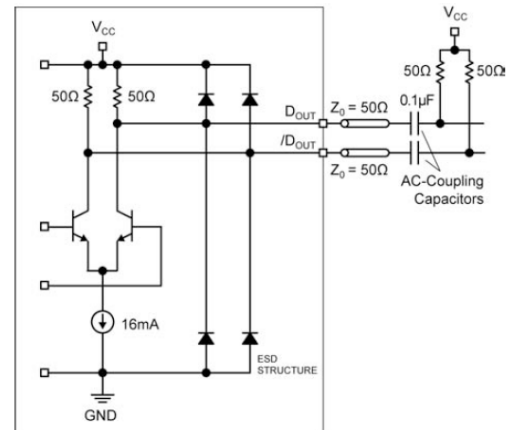
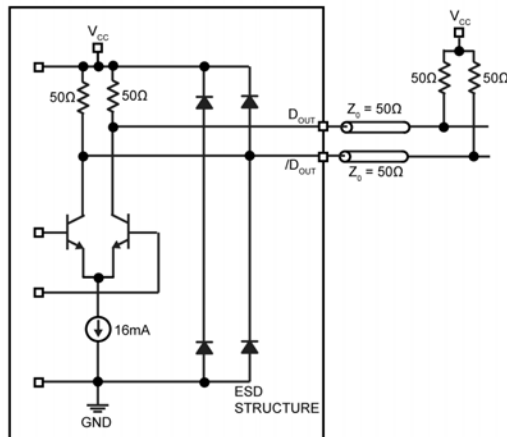

Figure 3a. Simplified Output Structure with AC-Coupled Termination
Figure 3b. Simplified Output Structure with DC-Coupled Termination
12. V_{OL} and V_{OH} are measured with outputs loaded with 50 Ohms as shown in Figure 3b and V_{OD} is measured in accordance with Figures 3a and/or 3b.